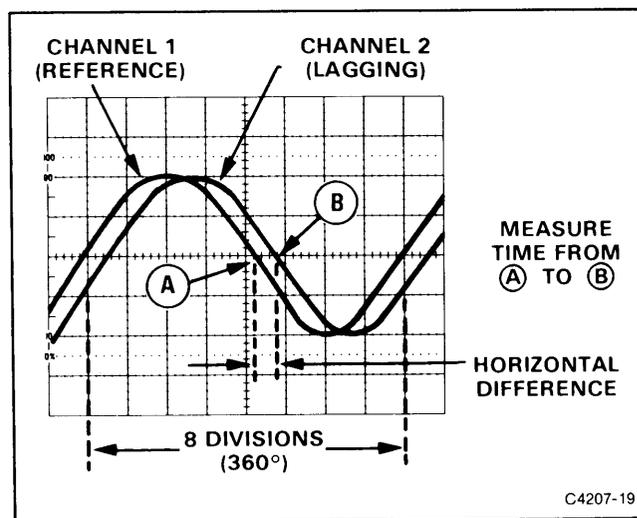
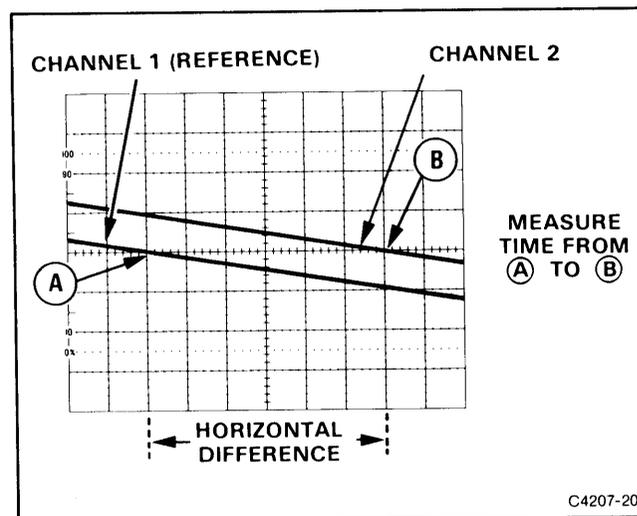

Figure 4-9. Phase difference.
Figure 4-10. High-resolution phase difference.
9. Position the displays and adjust the SEC/DIV Variable control so that one reference-signal cycle occupies exactly 8 horizontal graticule divisions at the 50% rise-time points (see Figure 4-9). Each division of the graticule now represents 45° of the cycle (360° ÷ 8 divisions), and the horizontal graticule calibration can be stated as 45° per division.
Example: The horizontal difference is 0.6 division with a graticule calibration of 45° per division as shown in Figure 4-9.
EXAMPLE: If the sweep speed were increased 10 times with the magnifier (X10 Magnifier knob out), the magnified horizontal graticule calibration would be 45°/division divided by 10 or 4.5°/division. Figure 4-10 shows the same signals illustrated in Figure 4-9, but magnifying the displays results in a horizontal difference of 6 divisions between the two signals.